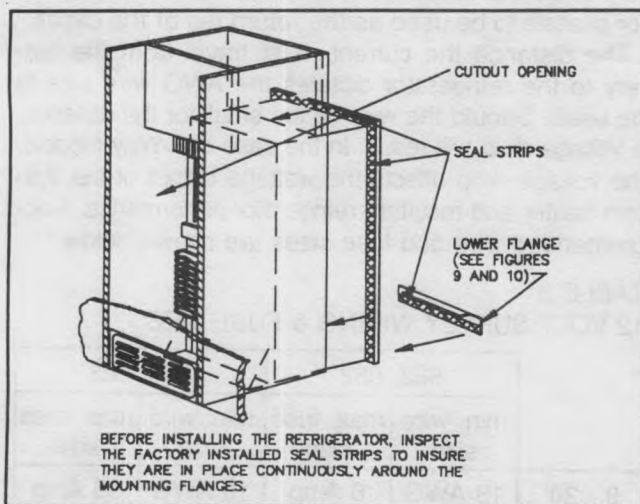

Figure 12 - Location of Seals
- c. Adequate seal between refrigerator mounting flange and cut-out opening. (See Figure 12)
The lower flange is shipped as a loose part to prevent damage during shipment. The part is to be attached after the refrigerator is set into the cut-out opening. (See Figure 12)
Seal strips, provided with the refrigerator, must be in position behind the mounting flange after the refrigerator is installed in the wall enclosure (See Figure 12).